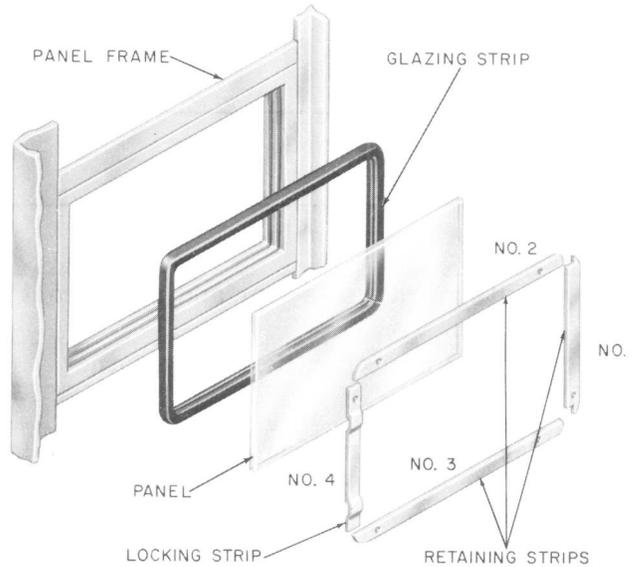

Fig. 2—Assembly of Side or Rear Panels
7.02 Booth panels and signs are held in place by four interlocking retaining strips. They are inserted in sequence as shown in Fig. 2. The No. 4 strip is rippled and is held in place by interface friction.
- (7) Replace retaining strips in sequence as shown in Fig. 2.
8.02 The side and rear signs are removed in the same manner as the side panels (see 7.03 and Fig. 2).